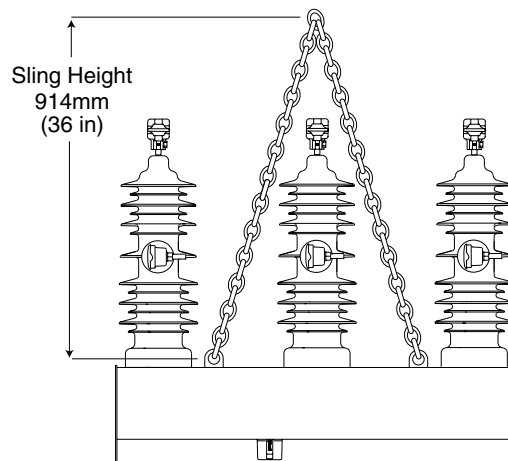

Figure 8.
- 2. Install the sectionalizer.** Kyle mounting frames should always be used. See Figure 8 for lifting instructions.